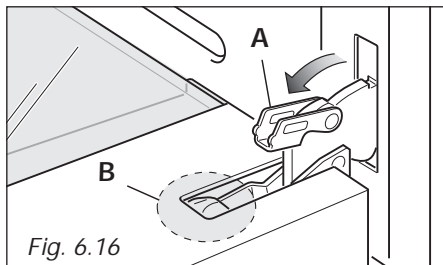
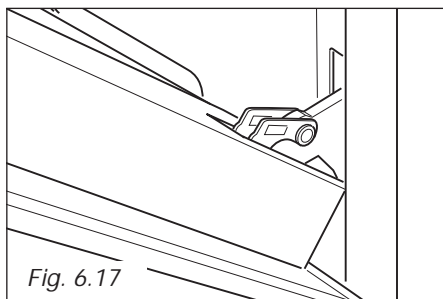

Fig. 6.16
Fig. 6.17
- Fully open the lever A on the left and right hinges. (fig. 6.16).
- Gently close the door (fig. 6.17) until the left and right hinges are hooked to part B of the door (fig. 6.16).
1. Make sure the door is locked open (see fig. 6.17).